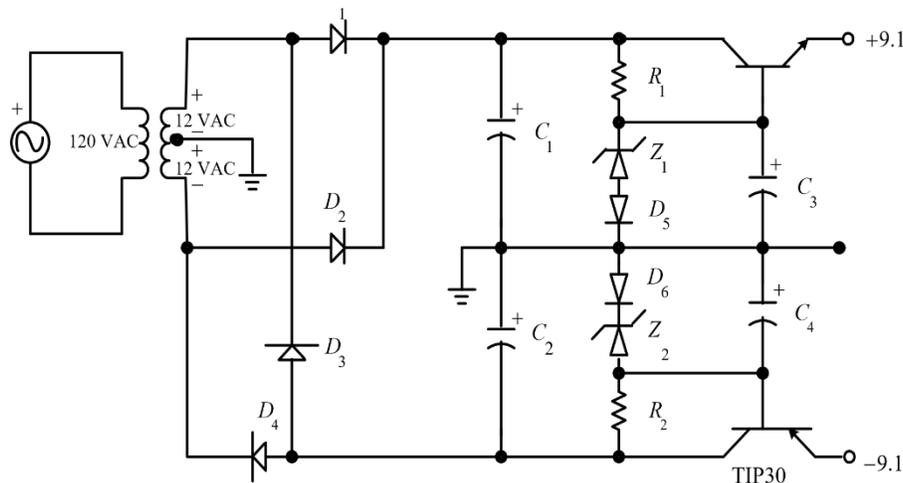

Figure 4: A Regulated Dual Power Supply.
5. On the last page of this handout (Figure 4), there is a circuit that is a dual polarity output of 9.1 V.